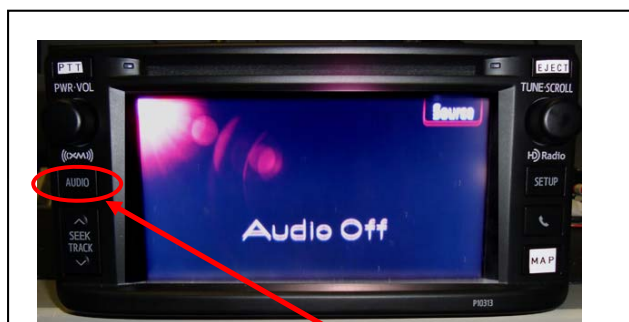

Fig. 9-6 Press and Hold "Audio" H/K
- (1) While pressing and holding the "Audio" H/K (Fig. 9-6), switch the headlights ON and OFF three consecutive times in quick succession.